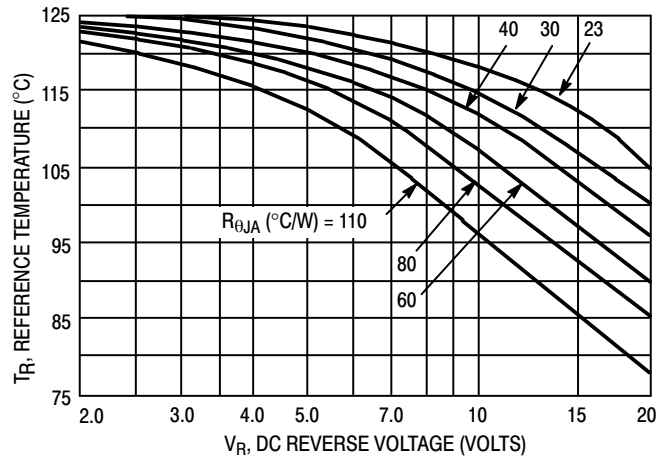

Figure 1. Maximum Reference Temperature 1N5817
Figures 1, 2, and 3 permit easier use of equation (1) by taking reverse power dissipation and thermal runaway into consideration. The figures solve for a reference temperature as determined by equation (2).
Inspection of equations (2) and (3) reveals that T_R is the ambient temperature at which thermal runaway occurs or where $T_J = 125^\circ\text{C}$, when forward power is zero. The transition from one boundary condition to the other is evident on the curves of Figures 1, 2, and 3 as a difference in the rate of change of the slope in the vicinity of 115°C . The data of Figures 1, 2, and 3 is based upon dc conditions. For use in common rectifier circuits, Table 1 indicates suggested factors for an equivalent dc voltage to use for conservative design, that is: